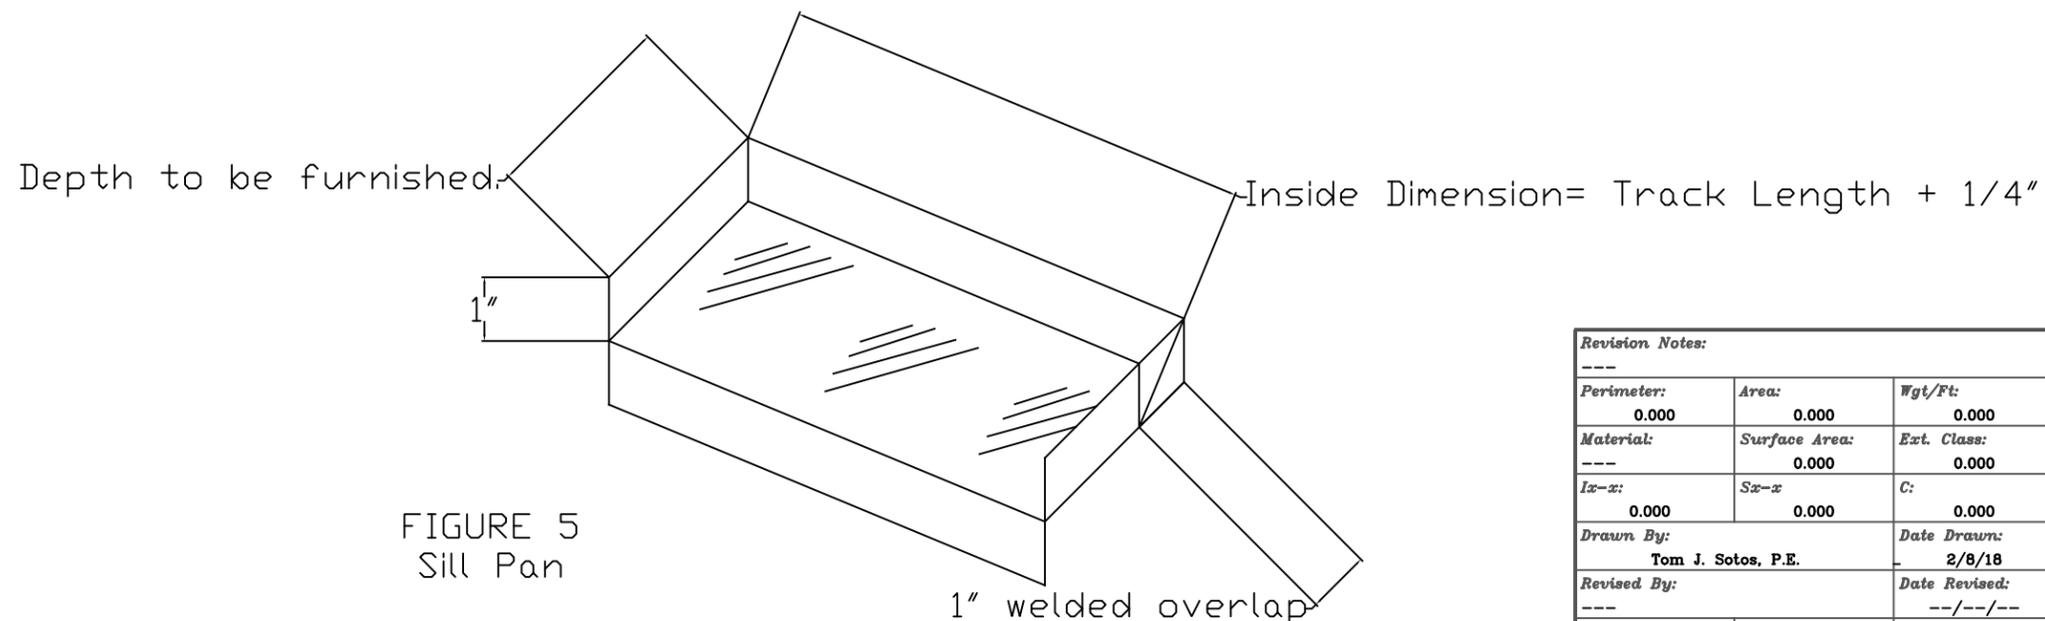

FIGURE 5
- 12 - Sill Pans (flashing) must be provided for all wood frame installation, and or second floor masonry construction when a conventional floor depression does not exist. Refer to sill panel detail Fig 5 below for proper fabrication.